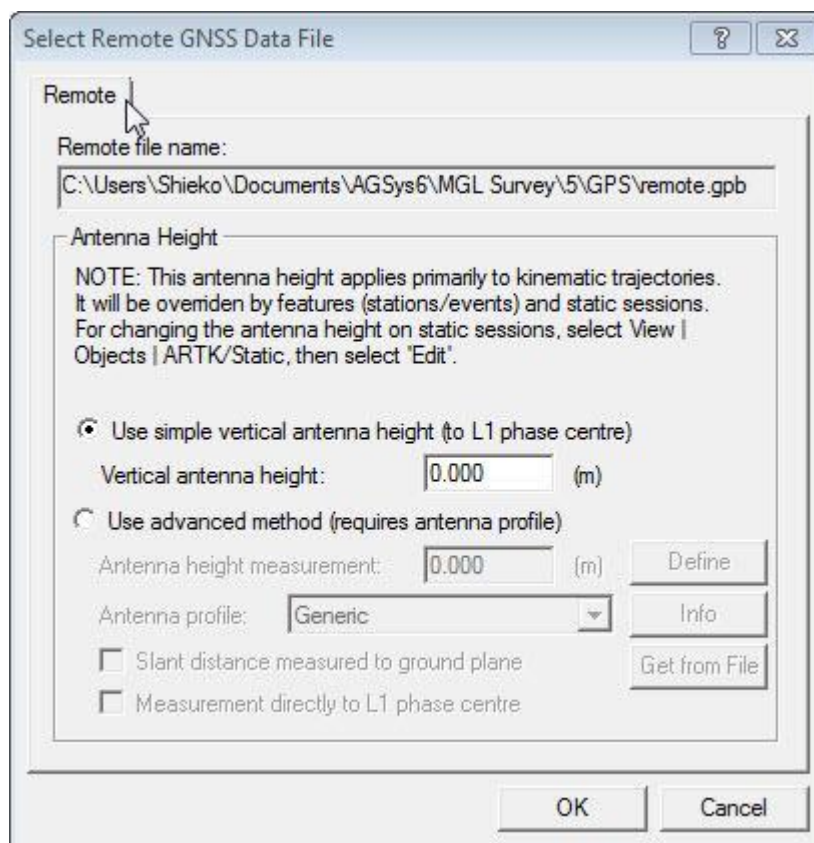

Figure 7-7 Select Remote GNSS Data File Dialog
- In the **Antenna Height** section of the **Select Remote GNSS Data File** dialog (Figure 7-7):